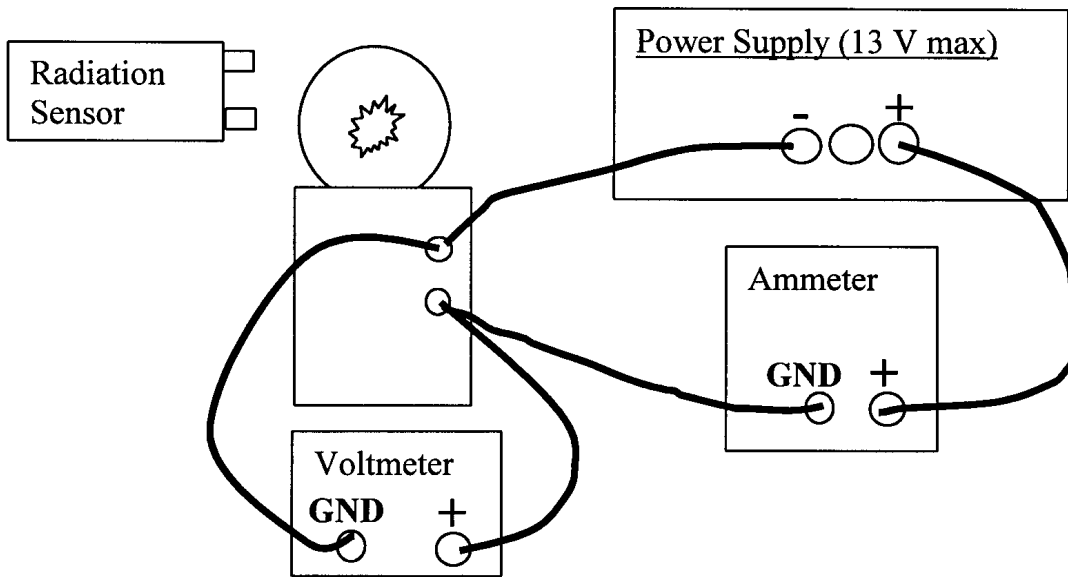

Figure 1.3: Lamp connection for high-temperature Stefan-Boltzmann setup
3. Set up the equipment as shown in Fig. 1.3. **VERY IMPORTANT:** make all connections to the lamp when the power is off. Turn the power off before changing/removing connections. The voltmeter should be directly connected to the binding posts of the Stefan-Boltzmann lamp. In this case the multimeter voltmeter has direct access to the voltage drop across the bulb, while the power supply voltmeter reads an extra voltage due to finite resistance of the current meter. Compare readings on the multimeter and the power supply current meters. Which one is the correct one? Think about your measurement uncertainties.